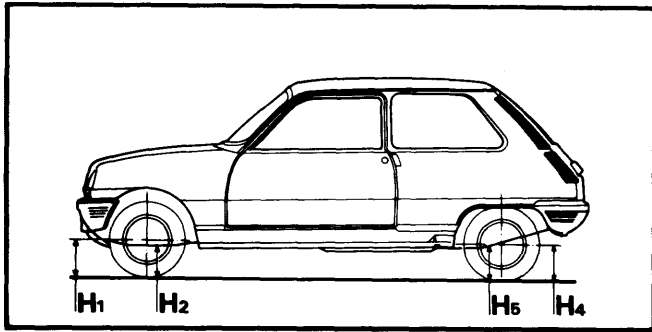

Fig. 1 Riding Height Measurement Points
**Le Car** — 1) Vehicle riding height must be calculated before adjusting caster. Measure distance between ground and rear side member (H5, Fig. 1). Measure distance between ground and front side member in line with wheel centers (H2, Fig. 1). Subtract measurements and refer to table for correct caster angle.